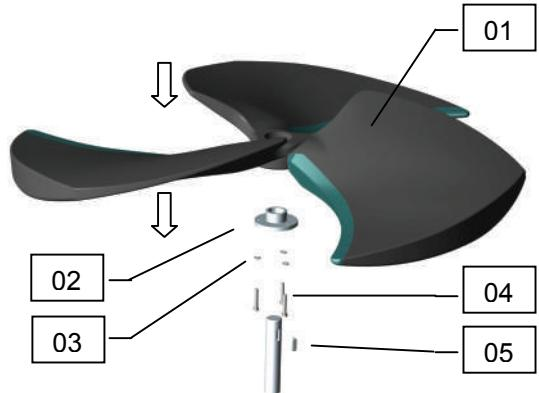
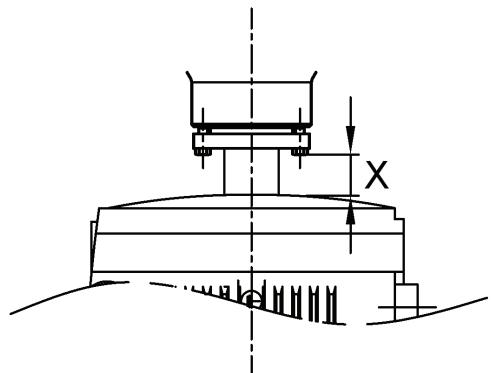

Figure 3
Figure 4
- b) Slip the bushing onto the drive shaft and check the key (5) for proper fit (figure 3). Be sure the shaft is completely through the bushing. Keep a bolt length as minimum distance x between bolts (4) and flange of the drive (figure 4).
- d) Install the impeller onto the bushing. Start bolts (4) by hand turning just enough to engage threads.